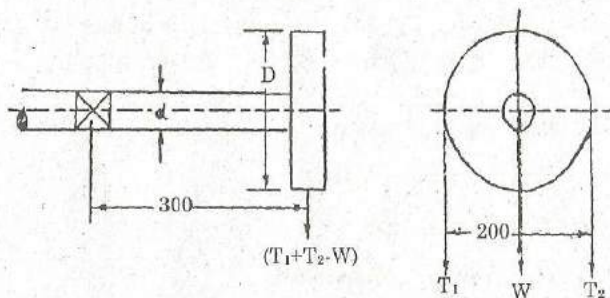

Fig. 1
6. Design a shaft to transmit power from an electric motor to a lathe head stock through a pulley by means of a belt drive as shown in Fig 1. The pulley weighs 200 N and is located at 300 mm from the centre of the bearing. The diameter of the pulley is 200 mm and the maximum power transmitted is 1 kW at 120 r.p.m. The angle of lap of the belt is 180° and coefficient of friction between the belt and the pulley is 0.3. The shock and fatigue factors for bending and twisting are 1.5 and 2.0 respectively. The allowable shear stress in the shaft may be taken as 35 MPa.